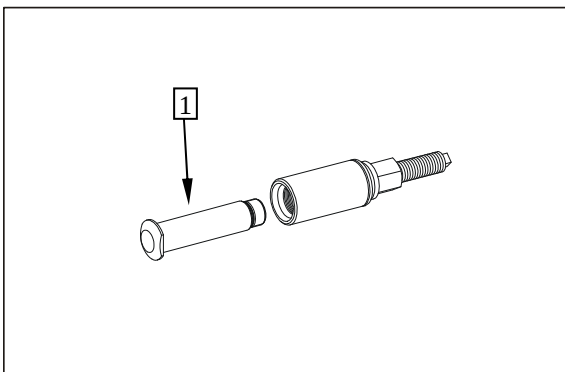

Figure 12
Fit control arm bolt (Figures 12 to 15).
Figure 12 shows the required special tool for fitting the control arm bolt (1).